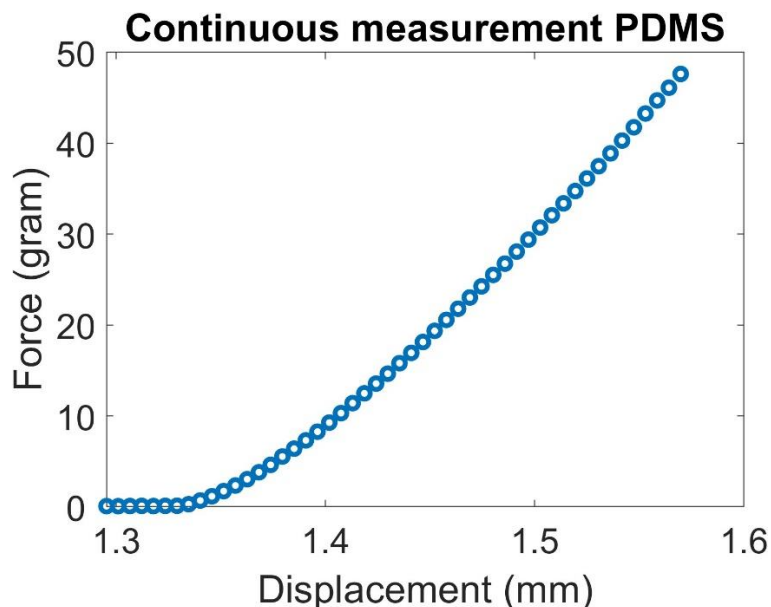

Figure 10. Force curve for PDMS material (simulation results).
**Hint!** In simulator script (filename: Script Simulator Continuous.m) once you utilize a timer to estimate the stage position, you will get force curve against displacement. If the timer utilized in a correct way you must get a curve similar to Figure 10 **for PDMS**.